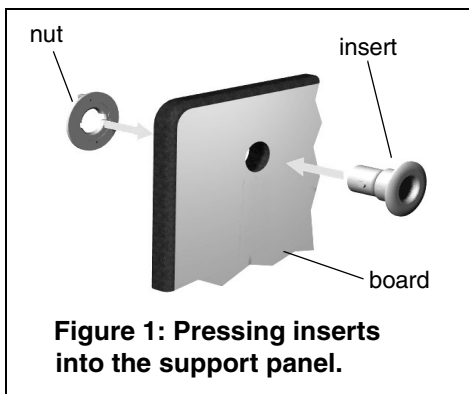

Figure 1: Pressing inserts into the support panel.
a) To install the inserts, press one plastic insert into each of the 70 holes in the three boards. The inserts should be inserted in from the white side of the panel (See Figure 1).